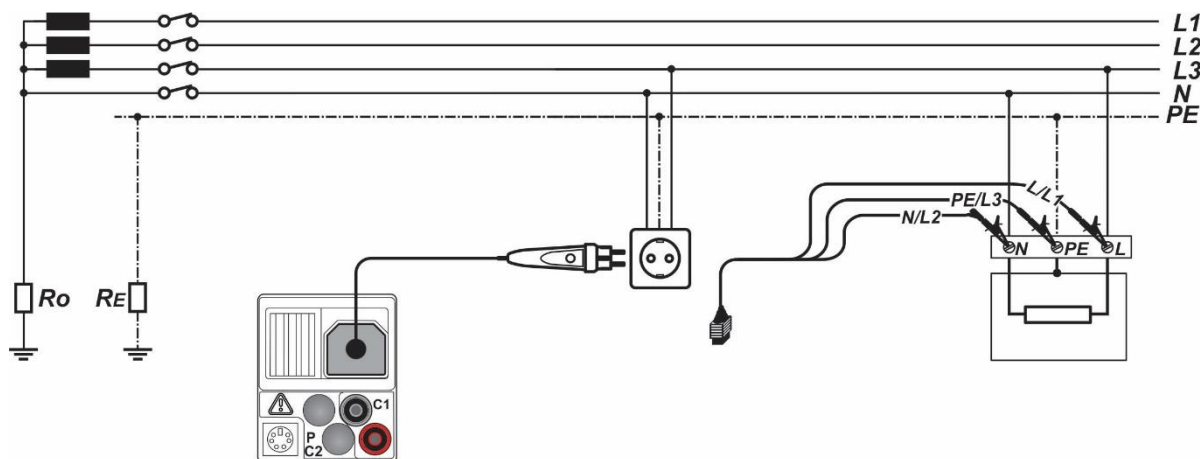

Figure 5.27: Connection of plug commander and 3-wire test lead
- ❑ **Connect** test leads to the item to be tested (see *Figure 5.20* and *Figure 5.27*).